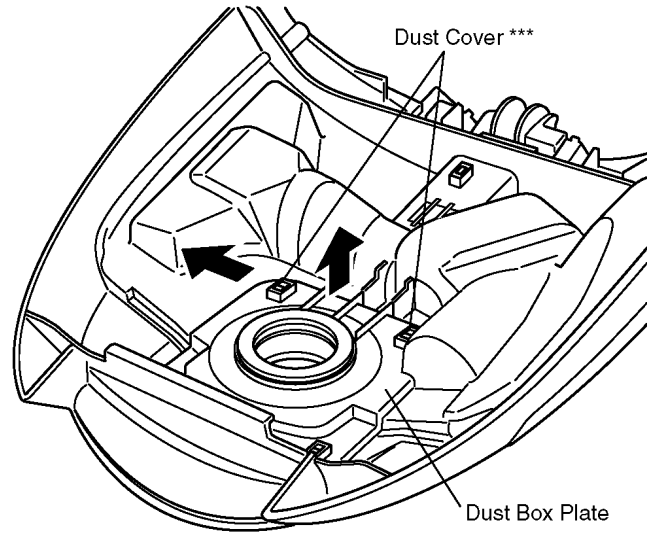

Fig.5
1. Remove the upper connection and then remove the rubber hose fitting. (Fig.5)